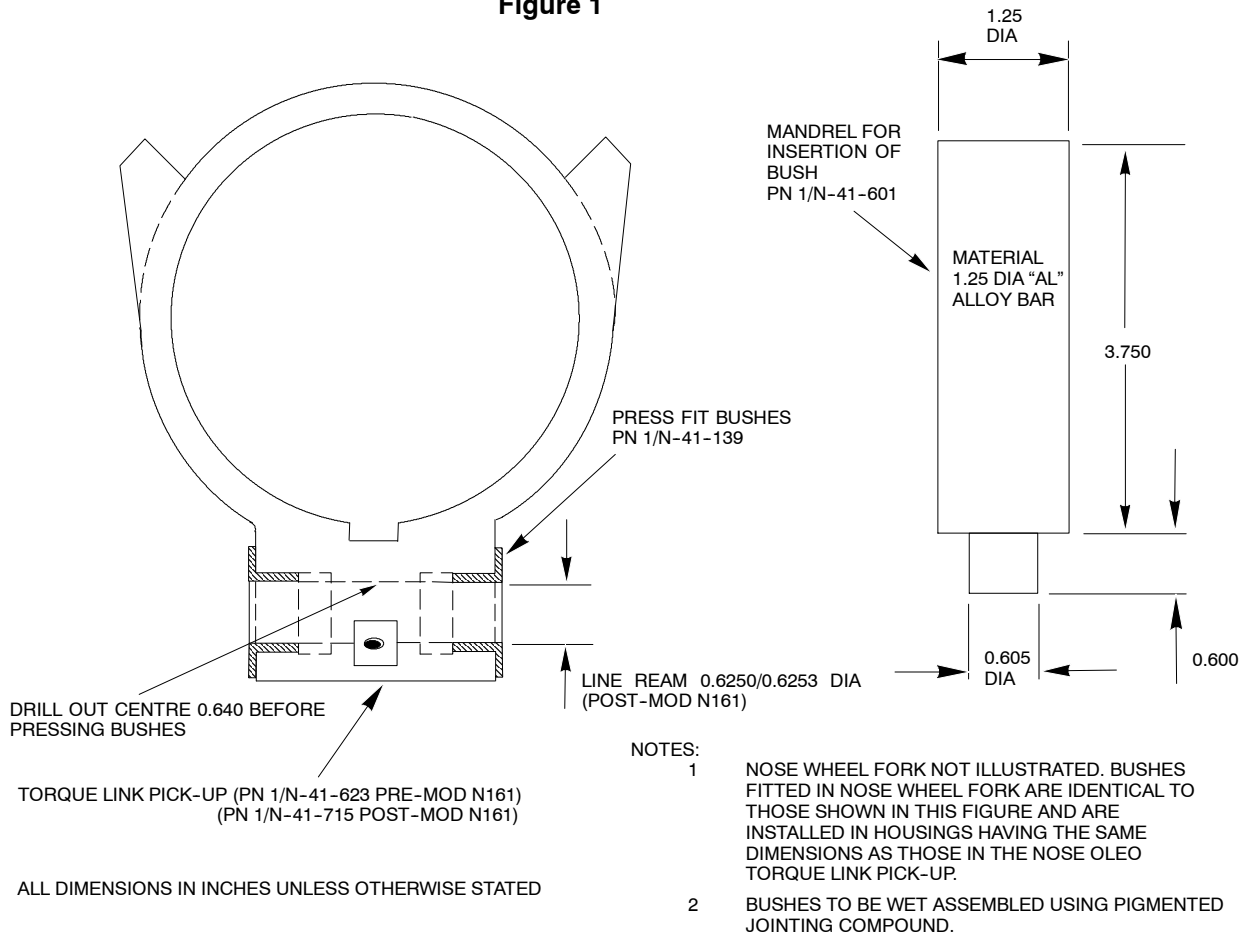

Figure 2
- (4) Using a copper drift remove and inspect bushes PN 1/N-41-139 from nose wheel fork PN 1/N-41-657 (Ref IPC Chap 32-20-03). Drill out centre of nose wheel fork pivot pin hole to 0.640 in dia to provide clearance within hole for line reaming new bushes. Refit serviceable bushes PN 1/N-41-139 using locally manufactured mandrel. Line ream bushes to 0.6250/0.6253 in dia and clean out swarf. Repeat for bushes PN 1/N-41-139 within torque link pick-up PN 1/N-41-623 (Ref IPC Chap 32-20-03 & Fig 2).
- (5) Fit modified torque links assy, as follows: